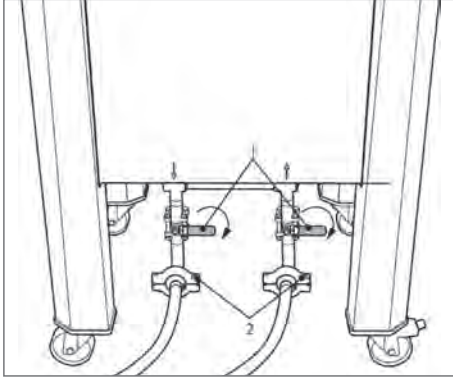

Figure 72
2. Close the two manual ball valves if applicable, disconnect the inlet and outlet connections and remove the lines (see Fig. 72 | 1 and 72 | 2)